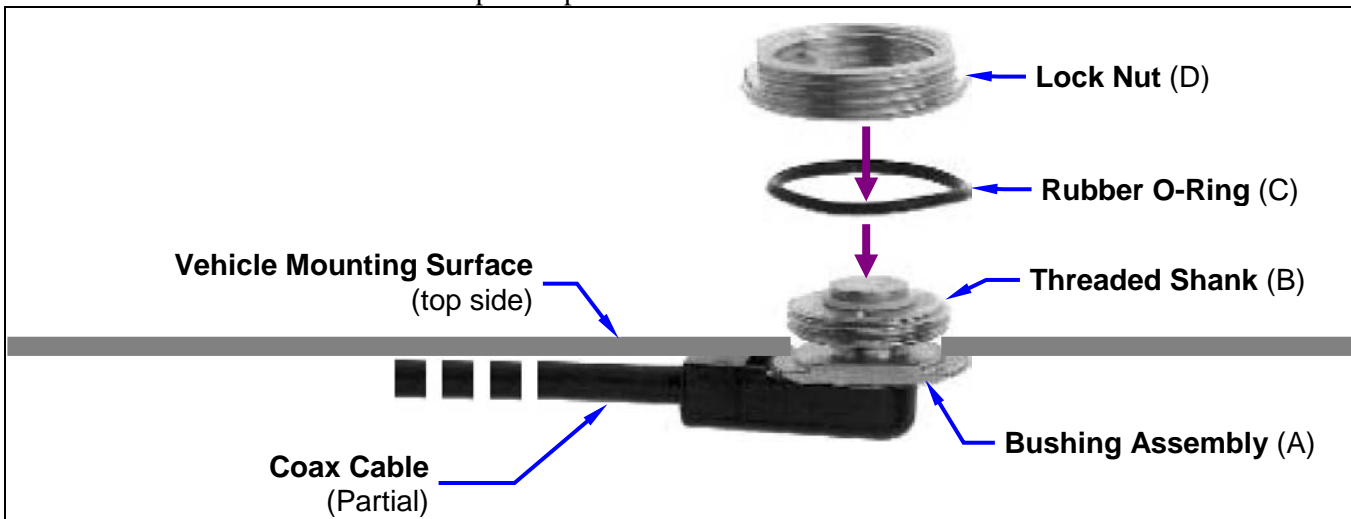
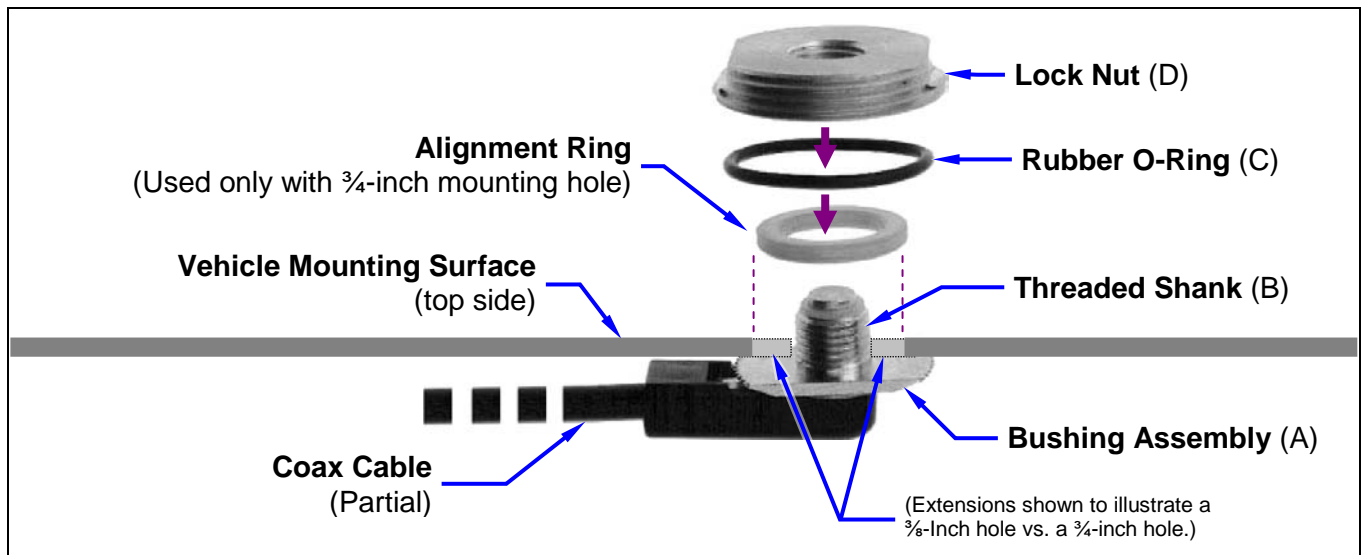

Figure 6-2: Installing a Standard $\frac{3}{4}$ -Inch NMO Antenna Mount
Figure 6-3: Installing a Thick-Roof NMO Antenna Mount
11. As illustrated in Figure 6-2 and Figure 6-3, add the O-ring (C) and lock nut (D) to the top of the mount's bushing assembly (A). With the O-ring in the groove in the underside of the lock nut, thread the lock nut onto the bushing assembly. Be sure the O-ring remains in the groove before tightening the lock nut.
2. Place the gasket included with the antenna element (not pictured in Figure 6-2 or Figure 6-3) around the mount and against the surface of the vehicle. If a lubricant or sealant was included with the gasket, apply it to the gasket before placing the gasket.